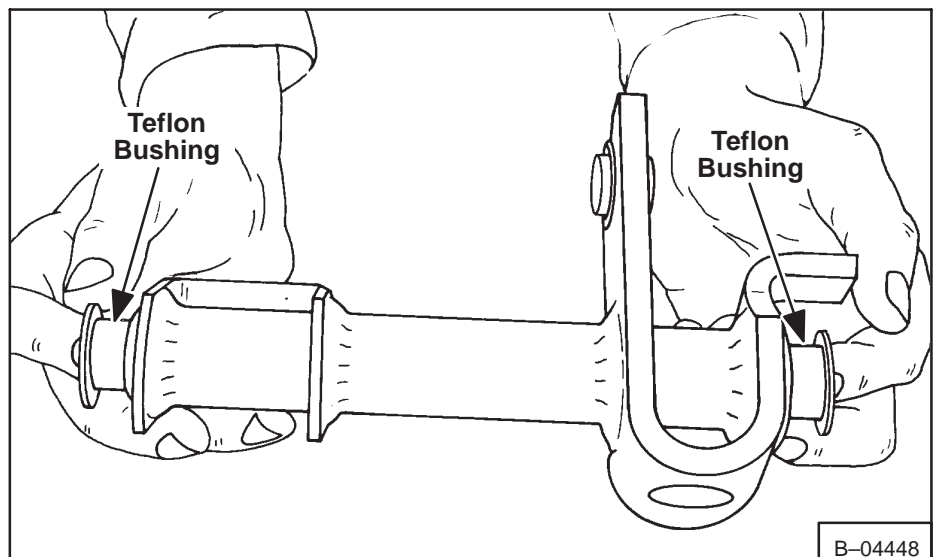

Fig. 3-11 Installing Teflon Bushings
3. Install new Teflon bushings on the steering levers (Fig. 3-11).